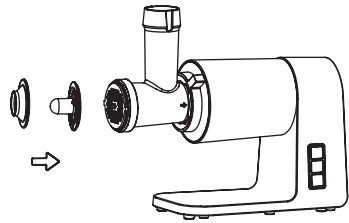

Figure 11.
2. Place kibbe attachments A and B onto the feed screw shaft together, fitting protrusions in the slots (fig. 11).